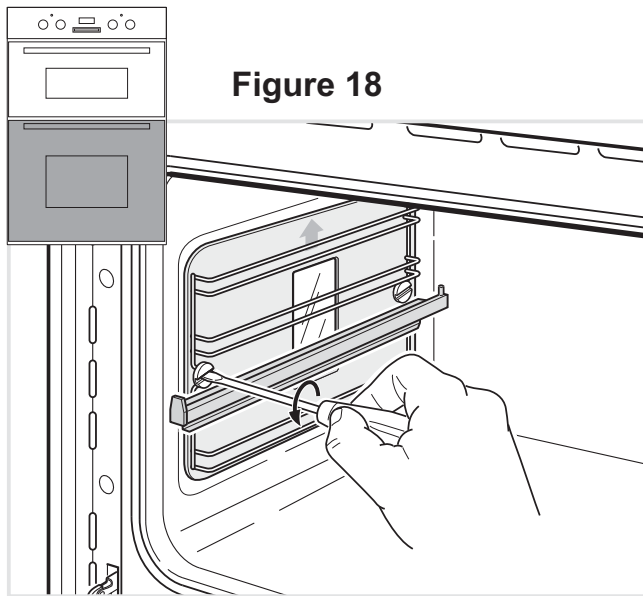

Figure 18
- Remove the side racks and the catalytic liners by unscrewing the fixing screws (Figs. 18 - 19).